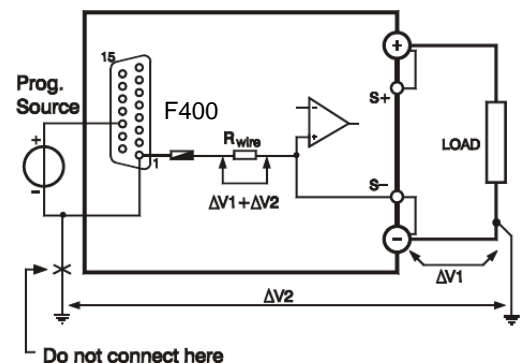

fig. 4 - 1
- Please check why current is flowing through pin 1 (see also next paragraph and fig. 4 - 1).
- Fig. 4 - 1 shows a typical earthing problem. In case the load has a connection to earth and the programming source as well, problems could occur. Improper choice of the earthing point of the load can give a voltage drop of $\Delta V1$.